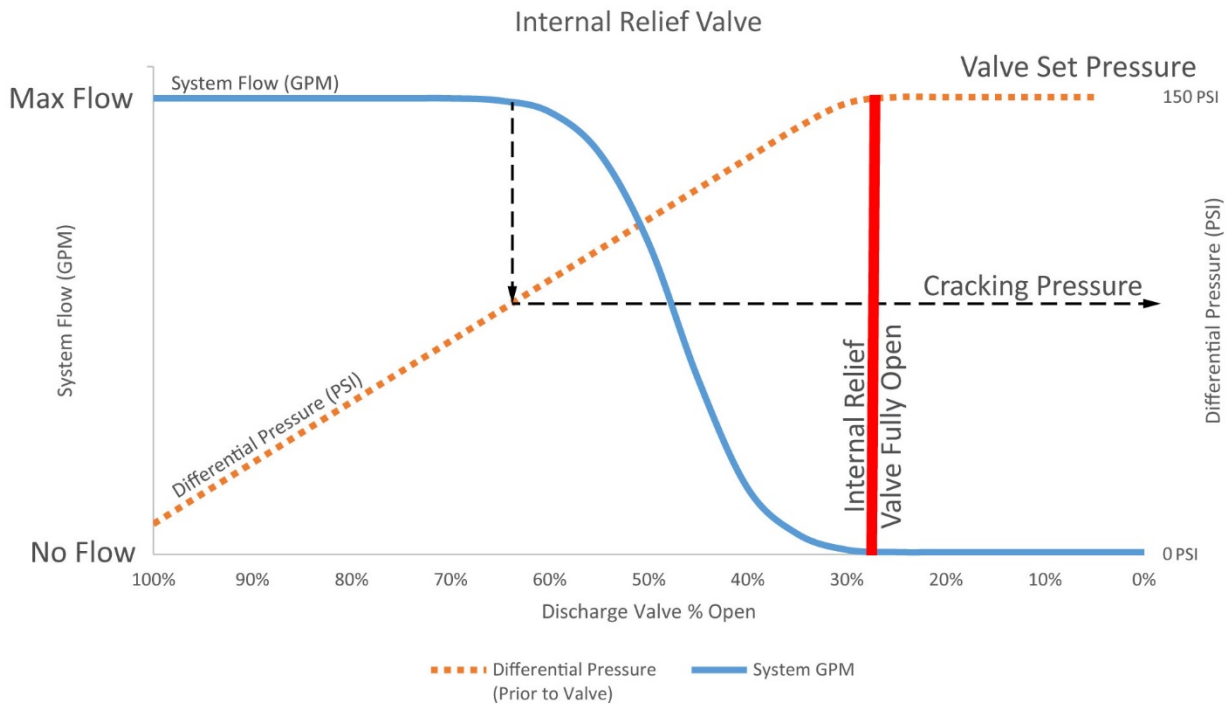

Figure 12-4: Internal relief valve (47) effects on system flow when differential pressure approaches internal relief valve (47) set pressure.
For example, the internal relief valve (47) is set to 150 psi. Observe the differential pressure (between suction and discharge) and the system flow meter while slowly closing a valve beyond the discharge pressure gauge. Figure 12-4 shows the pressure and flow rate relationship when increasing the pressure in the piping system (i.e. closing the discharge valve).
Note: Figure 12-4 shows a general relationship and not actual tested data.